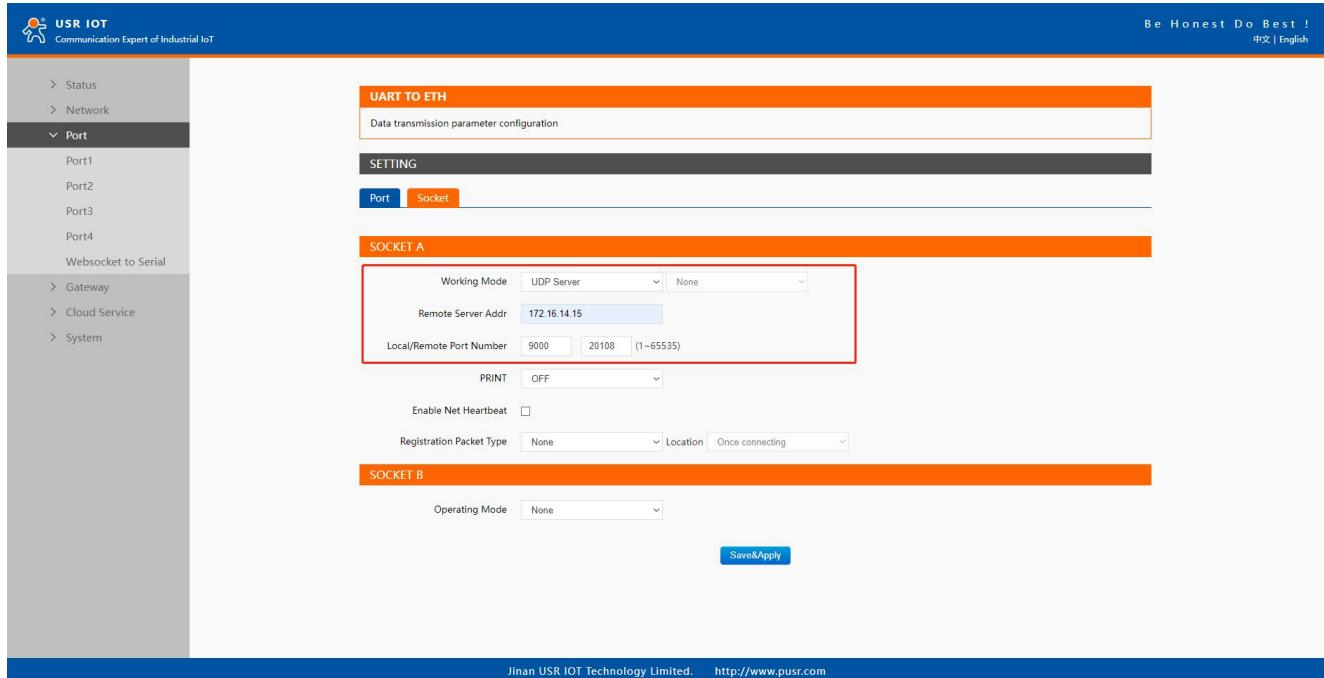

Fig. 53 UDP server work mode
Fig.53 shows an example of configuration setting for UDP Server mode under the Port1 socket page. You can configure other serial ports in the same way.
1. Click on the “Port1” tab on the menu frame on the left side of Web UI to go to Port1 page as shown in Fig.53.